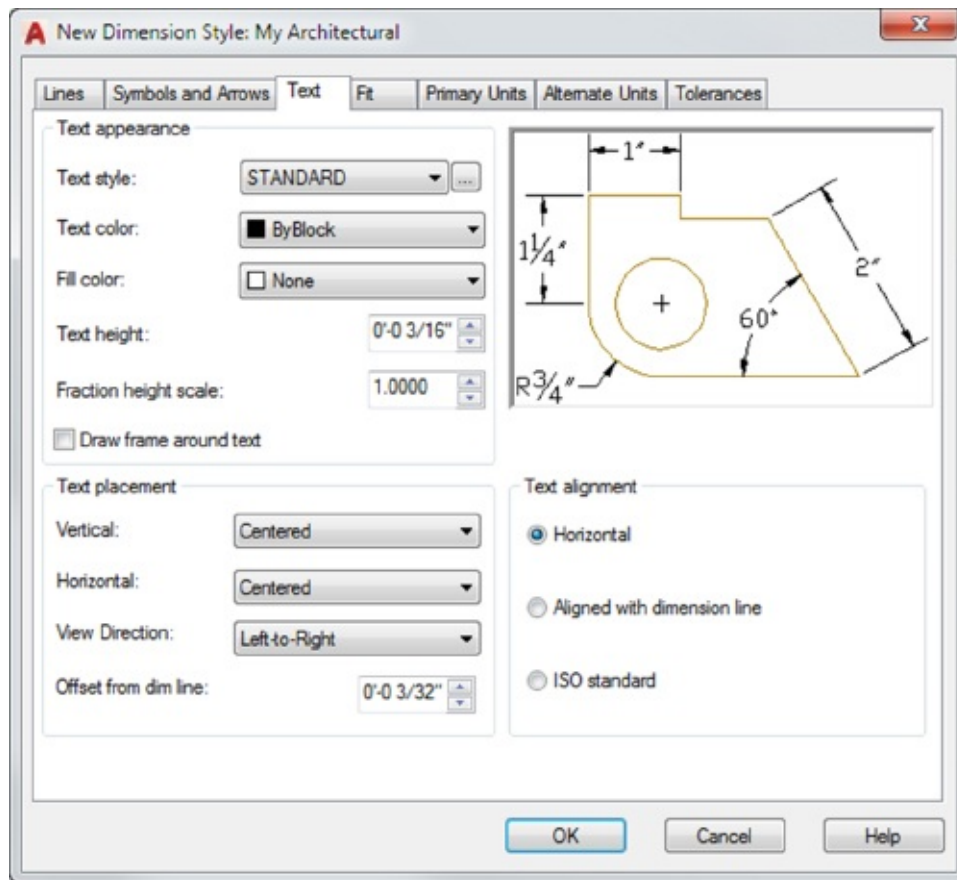

FIGURE 11.7 The Text options
1. Click the Text tab to display the text options (see Figure 11.7).